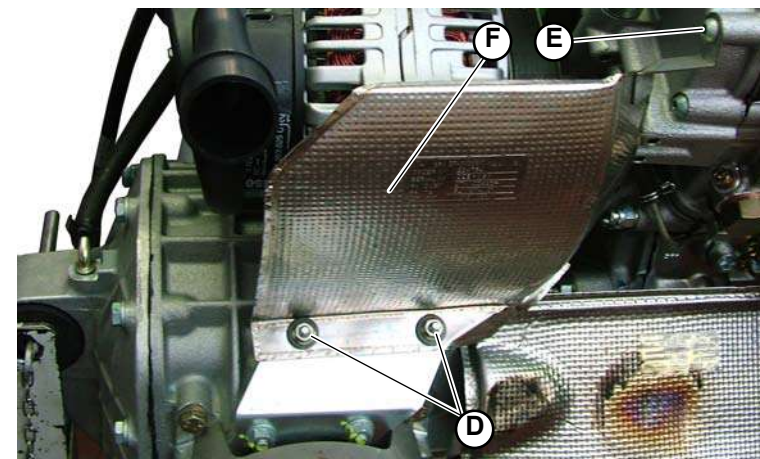

Fig.3
3. Unscrew the 2 bolts (D-Fig.3) and the screw (E-Fig.3) and remove the heat-proof panel (F-Fig.3).